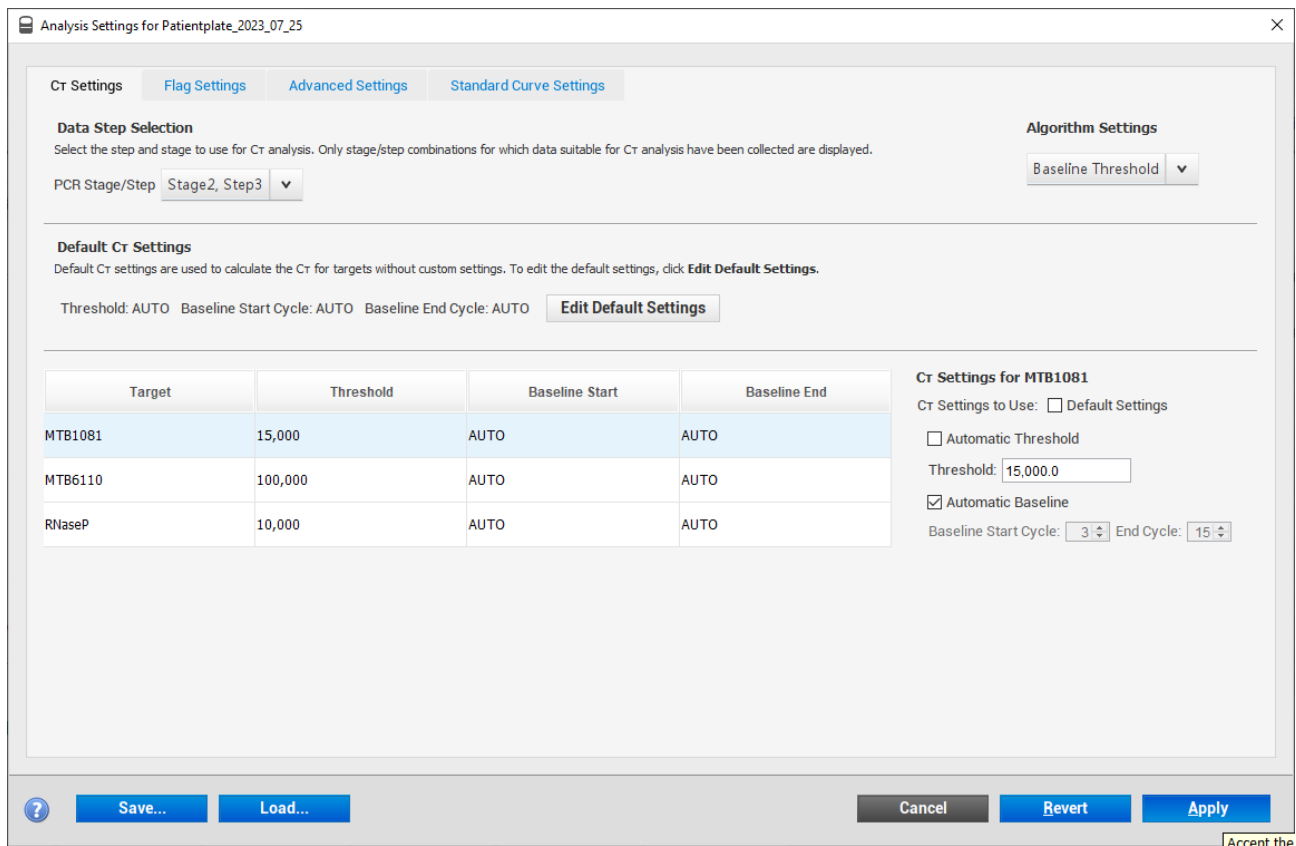

Figure 7: Changing PCR threshold settings
- 10.1.2. Click on the first target name, then unclick the “Automatic Threshold” button on the right side of the screen. The box shown in Figure 7 will appear.